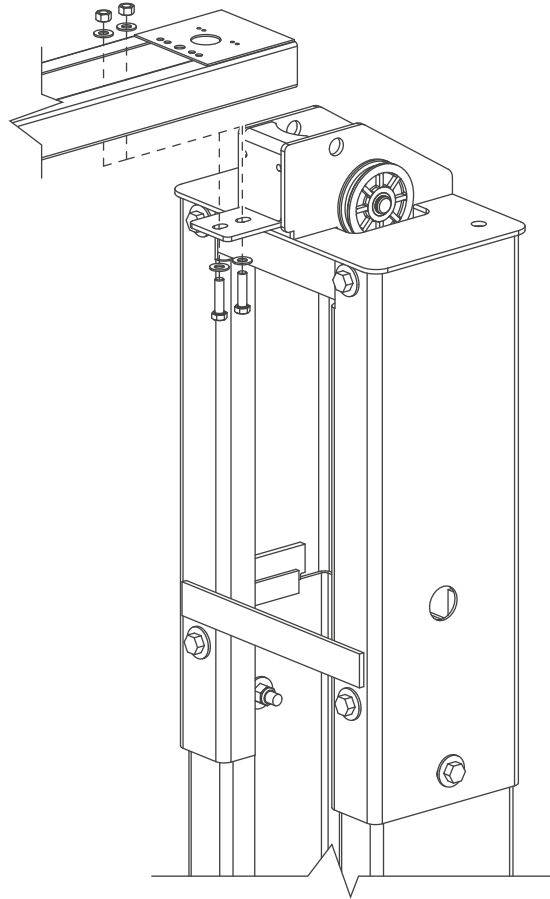

Figure 11
- * Raise the overhead beam and secure it to the upright using two $3/8 \times 1-1/2$ bolts, washers and nuts (typical both sides), Figure 11.